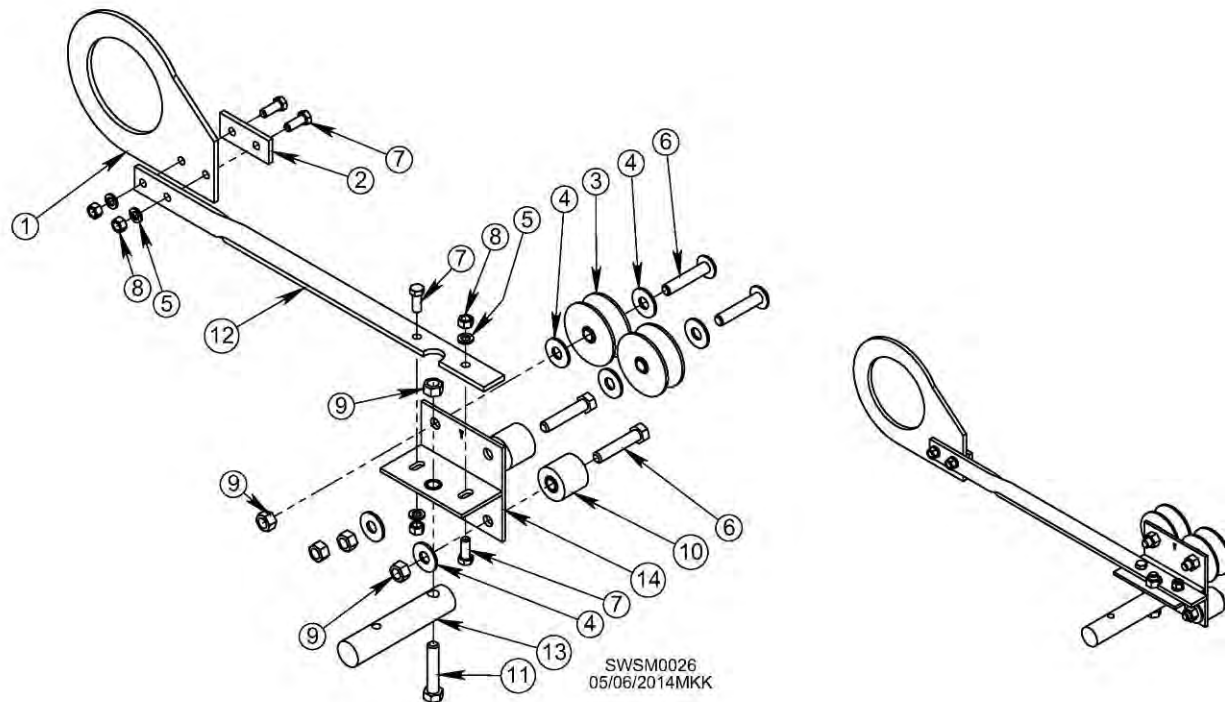

Figure 15 - Assembly of Stabilizer Kit Pivot Assembly, Exploded View
- 16 Add a 1/2" flatwasher to each 1/2" x 2-1/2" bolt and slide a top trolley pulley onto each, adding second 1/2" flatwasher on outside of pulleys. **Figure 15.**
- 17 Insert 1/2" x 2-1/2" bolt through roller assembly. **Figure 15.**
- 18 Add 1/2" locknut to each bolt. **Figure 15.**
- 19 Insert 1/2" x 2-1/2" bolt through hole on connecting shaft and slide up through center extended hole on weldment bracket. Add 1/2" locknut. **Figure 15.**
- 20 Insert 3/8" x 1-1/4" bolts through 2 holes trolley bracket cover, bracket plate, and bracket bar, adding 3/8" lockwashers and nuts. **Figure 15.**
- 21 Bolt bracket bar to weldment bracket using 2 3/8" x 1-1/4" bolts pointing down through assembly. Add 3/8" lockwasher and nut. **Figure 15.**